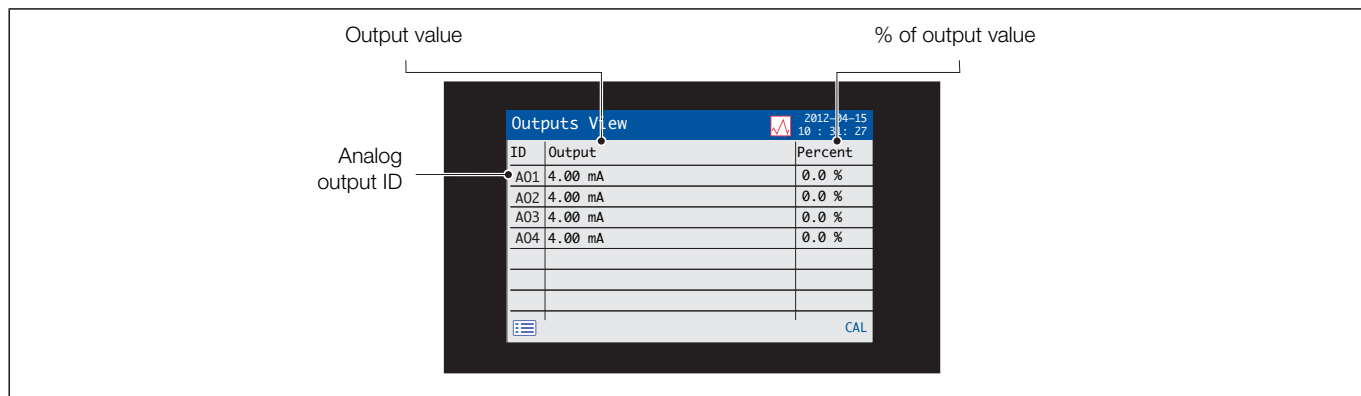

Fig. 6.8 *Outputs View*
- *Outputs View* – displays a list of alarms identified by analog output ID, output value and percentage of output value – see Fig. 6.8